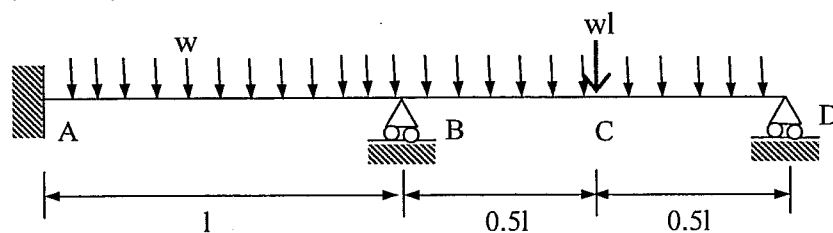

Figure 2: A continuous beam with a uniformly distributed load and point load
- (ii) Consider the continuous beam shown in Figure 2. Flexural rigidity of two members, AB and BD is equal to  $EI$ . Uniformly distributed load ( $w$ ) is acting on two members, AB and BD. Further, a concentrated load ( $wl$ ) is acting on the member BD at C.